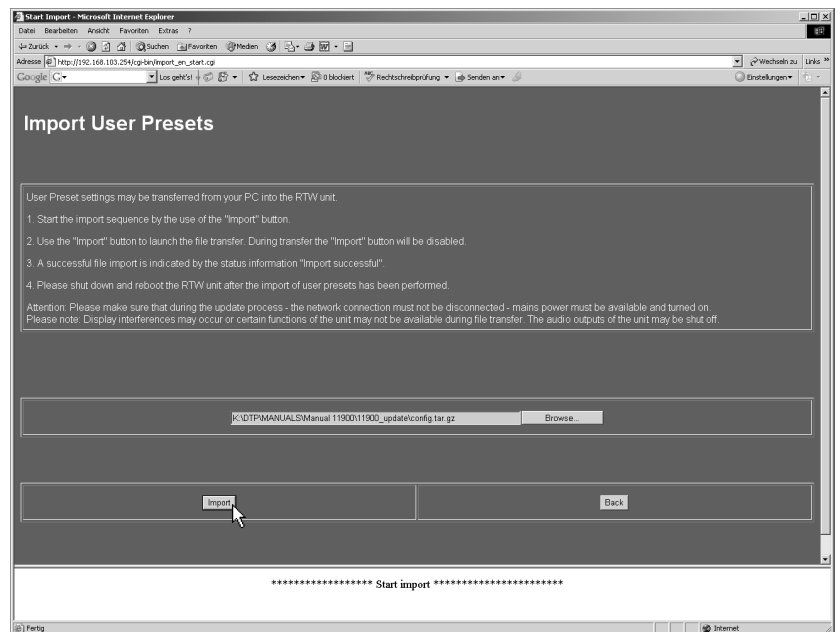

Fig. 8-21: Starting the import
5. A click to the **Import** button starts the data transfer to the SurroundMonitor units (see Fig. 8-21). If the **Import** button is not visible move the menu page upward by using the scrollbar on the right. **Please make sure that no interruption of the network access or supply power occurs during the download sequence.**